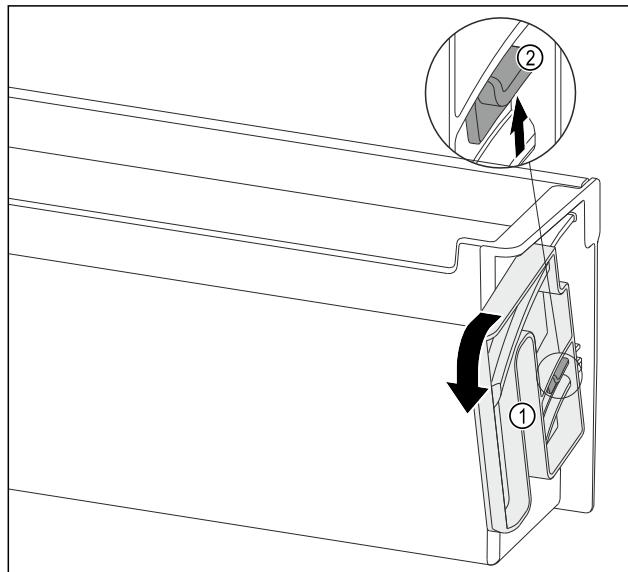

Fig. 133
- Turn the turning unit Fig. 133 (1) in the specified direction to the end stop.
- Press the tab Fig. 133 (2) up and remove the turning unit Fig. 133 (1).